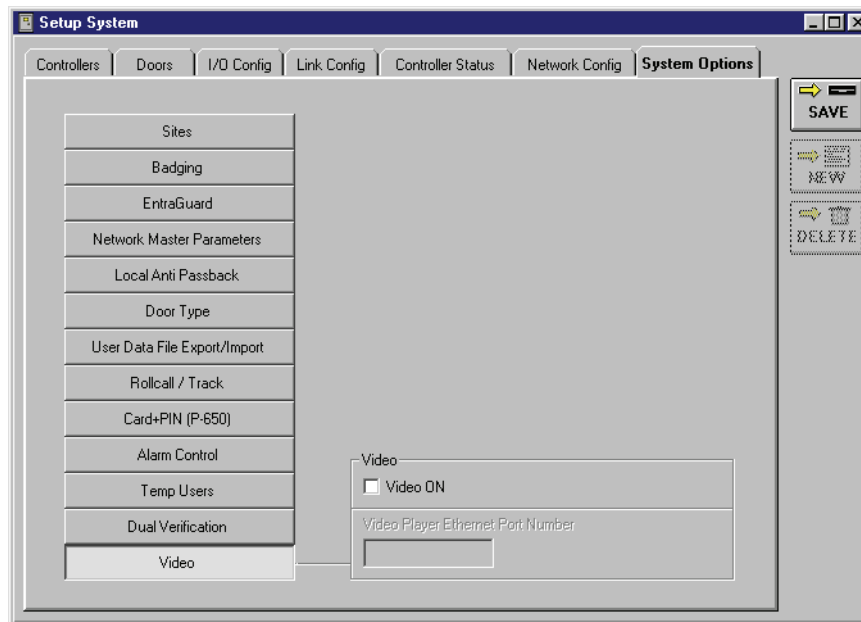

Figure 2-34: Video Field
1. From the System Options tab, click on the  button. The System Options window will reveal the Video field (see Figure 2-34).